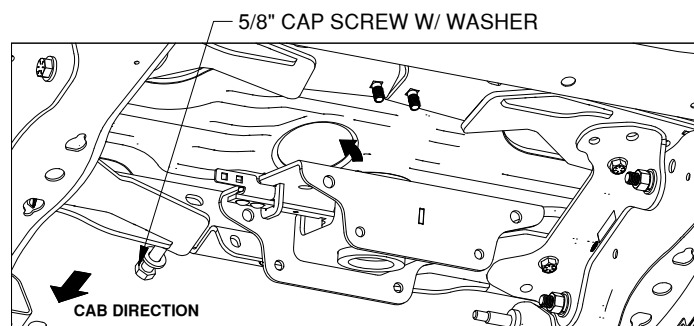

Figure D2: View looking up under the truck bed.
- Position center section.** Place a 5/8" x 4-1/2" cap screw with a 5/8" washer into the driver side cross member so the threaded side is flush with the outside of the cross member. With the latching mechanism on the driver side, raise the center section up under the 4" hole, see Figure D2. Align the hole in the front of the center section with the 5/8" cap screw and push the cap screw through the center section. Loosely secure the cap screw with a 5/8" lock washer and nut.